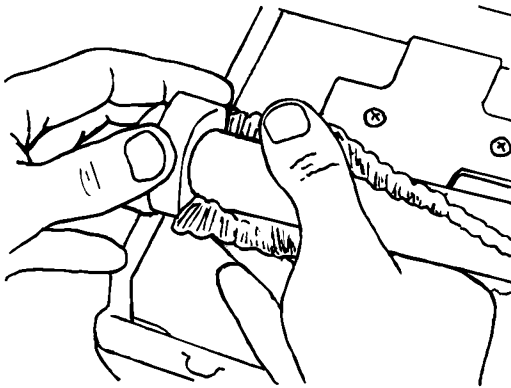

FIG. 2
- b. Look closely at the two white bearing blocks and note that a number (1) shows on each block.
- d. Hold the brush and rotate each of the two white bearing blocks until you see the number (2) on each block (Figure 2).